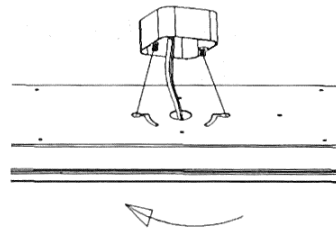

Figure 4
2. Turn housing clockwise to lock in place and tighten screws to ensure the fixture is secure and will not move. (Figure 4)